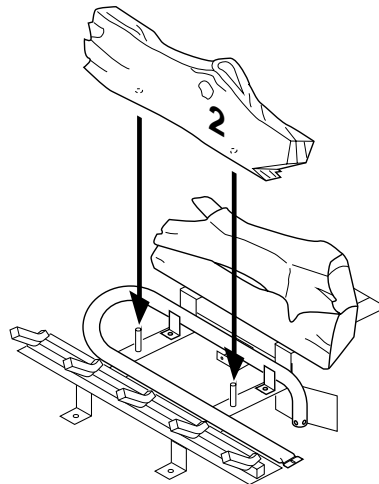

Figure 48 - Installing Log No. 2
3. Rest log #2 (large front log) on the pins on the front part of the grate (see Figure 48).